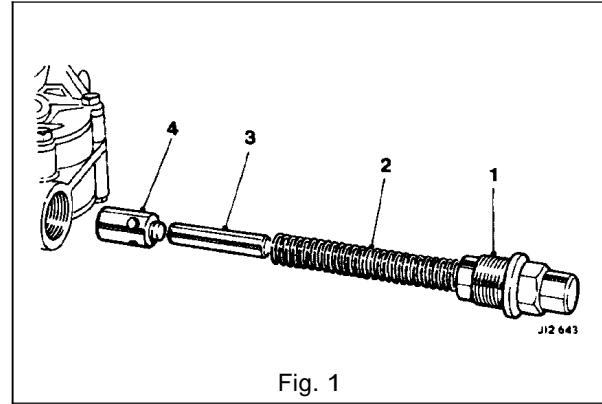
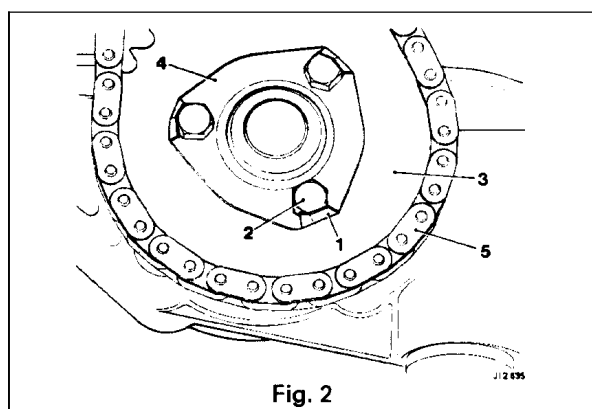

Fig. 1
Fig. 2
- Place a drain tray under the transfer housing. Remove the housing bolts and housing (1, 2 Fig. 1).
- Remove the pick-up pipes (3 Fig. 1), push back the lock tabs (1 Fig. 2) and remove the pump sprocket bolts (2 Fig. 2).
- Remove the oil pump drive sprocket (3 Fig. 2), tab washer (4 Fig. 2) and shims.
- Check all the clearance and components for undue wear (Fig. 1) and (Fig. 2). Check tolerances, see Service Data in the Preliminary Pages.